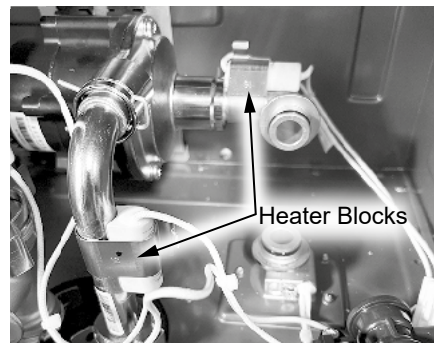

Figure 7 - Heater block locations
21 Locate the two heater blocks attached to the pump inlet elbow and the pump outlet tube as shown in Figure 7. Remove brackets (size 16) securing heater blocks to pipe connections. Place brackets aside in a safe place for reinstallation. Route heater blocks and wiring inside water heater cabinet for ease of access to water pump.
33 Locate the two (2) heater blocks and brackets (size 16) previously removed in **Step 21**. Secure heater blocks to pump inlet elbow and pump outlet tube as shown in Figure 7.